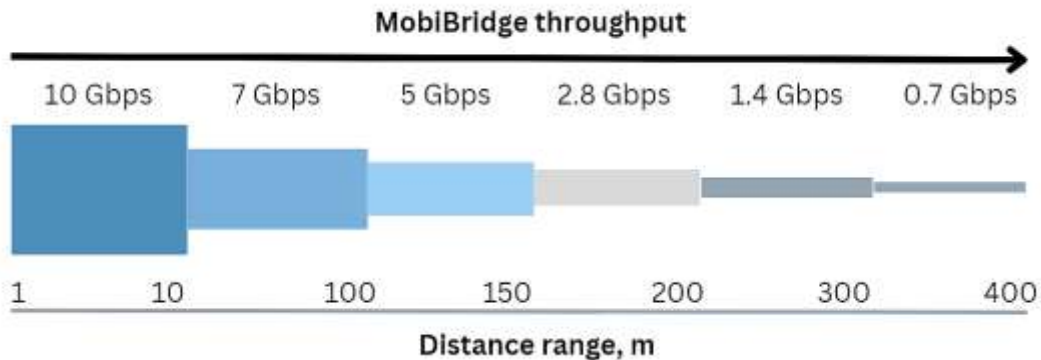

Fig.5. Throughput vs. Distance diagram for MobiBridge-10G radio
- The **Long-range operation mode** switch enables the highest transmitter signal gain and receiver sensitivity to enable connection over 10 m distance. Maximum 10 Gbps throughput is guaranteed at MobiBridge-10G operating ranges from 0.5 m to 10 m, with radios' maximum range of up to 400 m (see Figure 5).